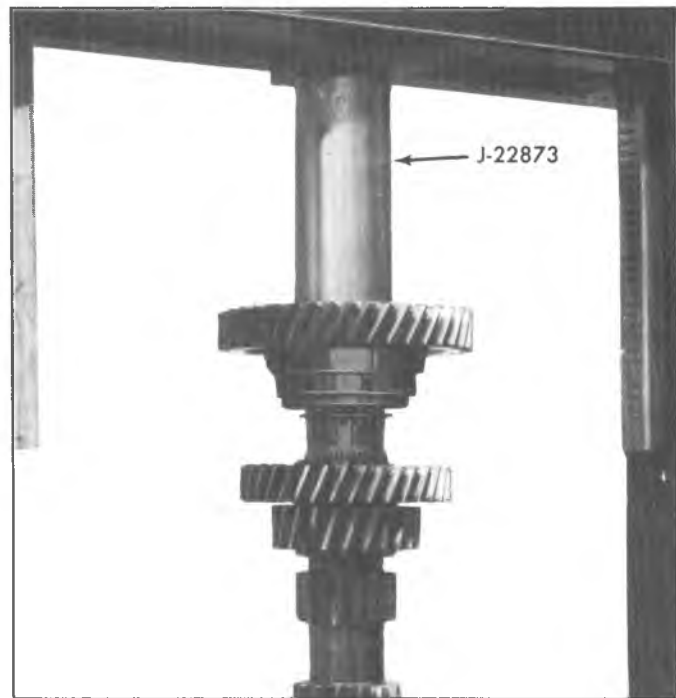

Fig. 22Q--Installing Clutch Countergear
4. Position clutch countergear and spacer on shaft and press countergear onto shaft against snap ring using Tool J-22873, (fig. 22Q).